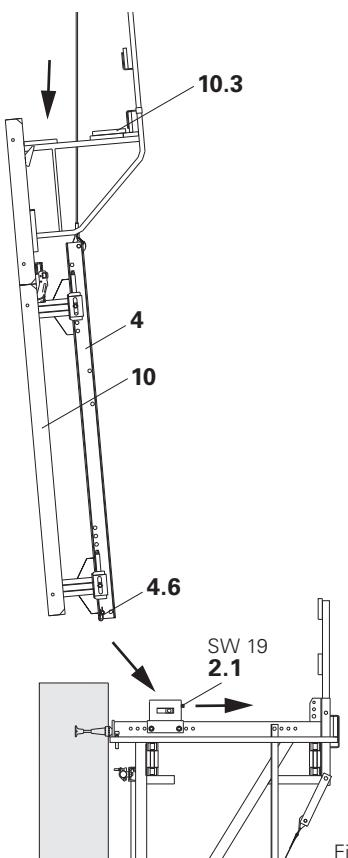

Fig. B2.18
3. Attach formwork unit (10) with concreting platform to the strongback (4) and position on the platform. (Fig. B2.18)
4. Fix strongback to the adjusting unit by means of bolts Ø 25 x 180 and cotter pins (4.6). Standard case: use those holes in the strongback facing the wall. (Fig. B2.18)